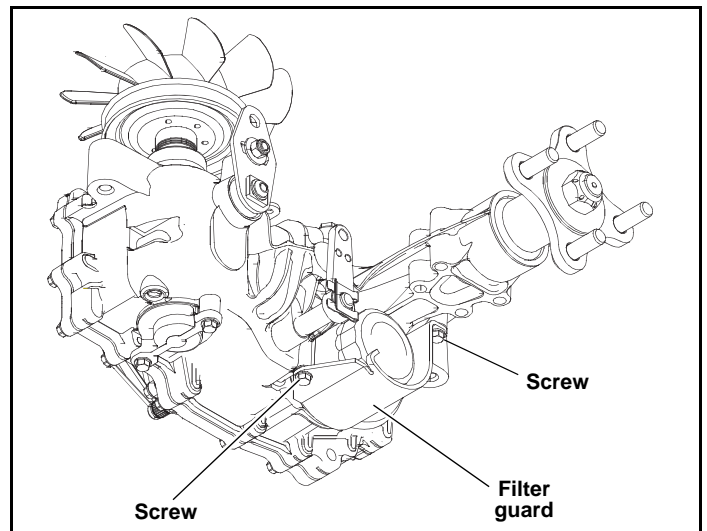

Figure 4-12
2. Remove the three 1/4" filter guard screws and filter guard. Clean any loose debris from around the filter. Figure 4-12
6. Re-install the filter guard with three 1/4" screws. Torque the screws to 65 in.-lbs. each. Figure 4-12